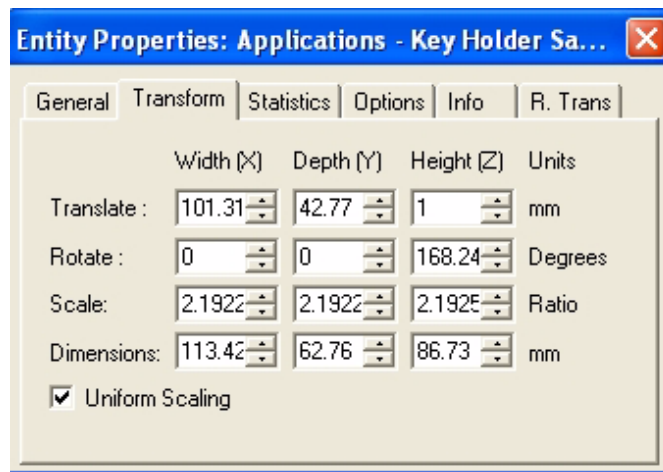
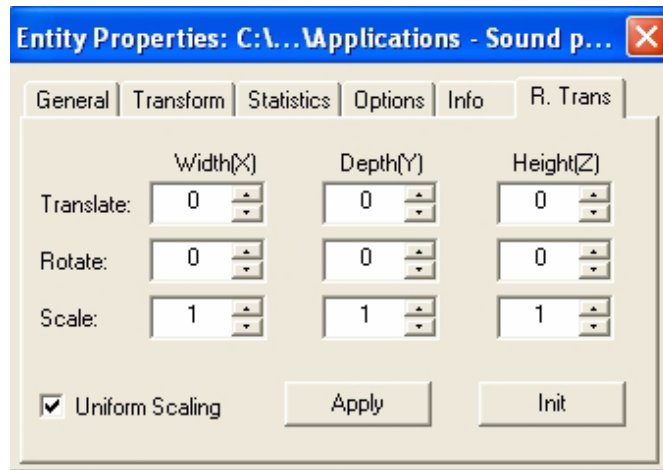

Figure 5-16: *Entity Properties* dialog box, *Transform* tab
Figure 5-17: *Entity Properties* dialog box, *R. Trans* tab
2. Display the *Transform* tab or the *R. Trans.* tab of the *Entity Properties* dialog box (see figure 5-16 on page 13 and figure 5-17 on page 13).